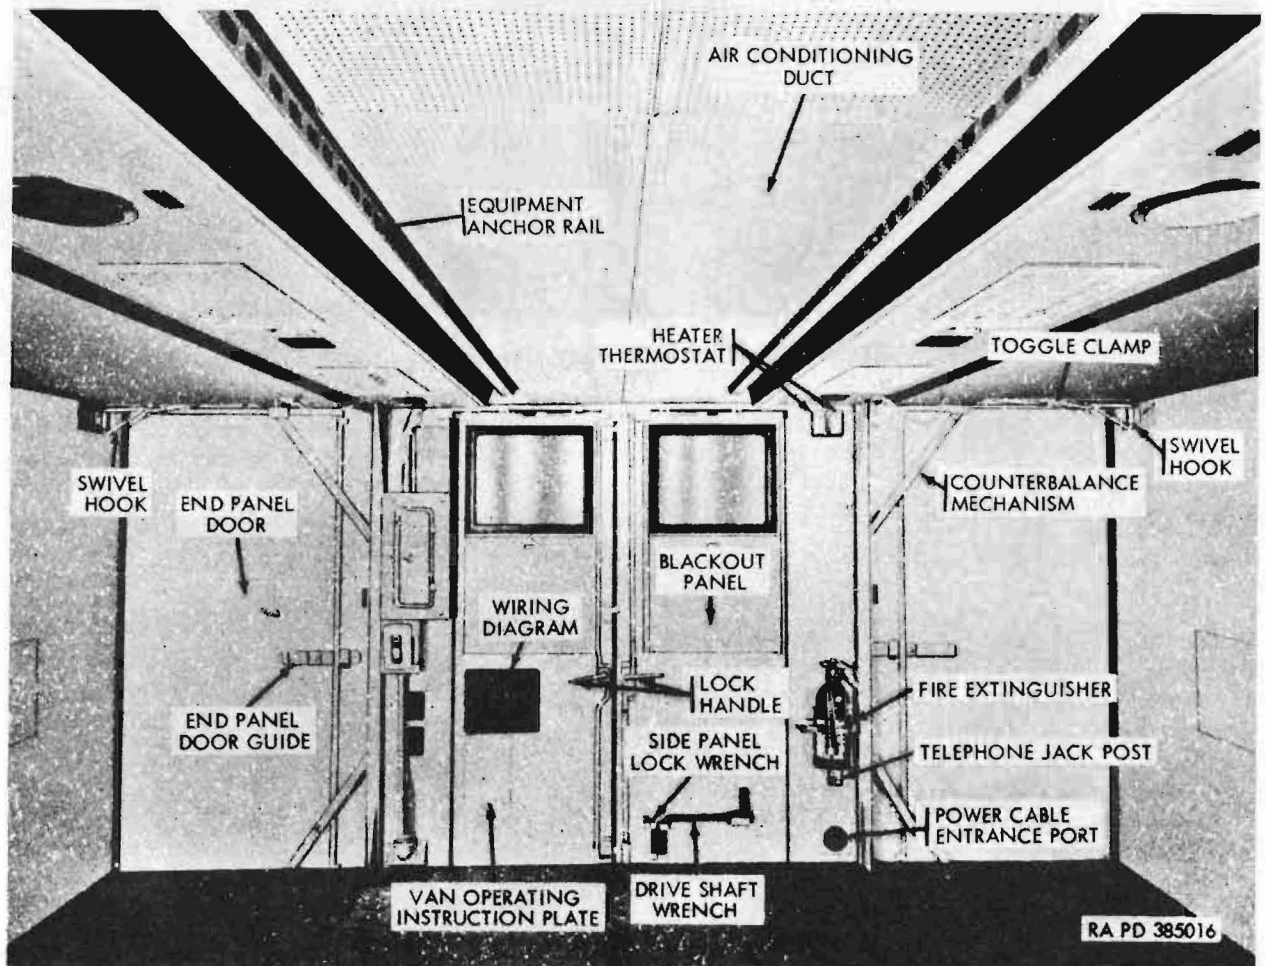

Figure 75. Van body in expanded position rear interior view
(2) Side and rear door locks (figs. 75 and 76).
stowed in a bracket on the inside of the left rear door as shown in figure 75.
clockwise directions, respectively. The wrench is stowed in a clip on the inside of the left rear door as shown in figure 75.
- (6) End panel door guides. The end panel door guides (figs. 75 and 79), located on the front and rear end panel doors of the van, are used to maintain alignment of the end panel doors with the van corner posts during the van expanding procedure. To engage each guide, close the end panel door and pull the corner swivel hook inward until the inner edge of the door is parallel with the corner post, then push the guide bar into the latch on the corner post. To release the guide, withdraw it from the latch.
panel toggle clamps (figs. 75, 79, 82, and 83), located at the ends and center of each hinged roof section, are used to draw up and hold the sealing edges of the side panels tight against those of the roof sections when the van is in the expanded position. The side panels are equipped with swivel hooks for attaching the clamps. Each clamp consists of a toggle mechanism, adjustable eyebolt, and operating handle. To attach each clamp, align the opposite swivel hook with the clamp, enter the hook in the clamp eyebolt, and pull the clamp handle away from the swivel hook. To release the clamp, push the handle toward the hook and detach the eyebolt from the hook. To stow the swivel hook, turn it into the niche in the side panel and secure with the spring clip. To stow the toggle clamp,
- (22) Heater thermostats. The heater thermostats (fig. 75), located on the van left rear panel toward the top, automatically control the output temperature of the heaters. The thermostats are graduated in degrees (Fahrenheit) over a range of 50 to 100 and are marked every 10 degrees. To set each thermostat, turn the control knob until the desired temperature is indicated by the pointer.